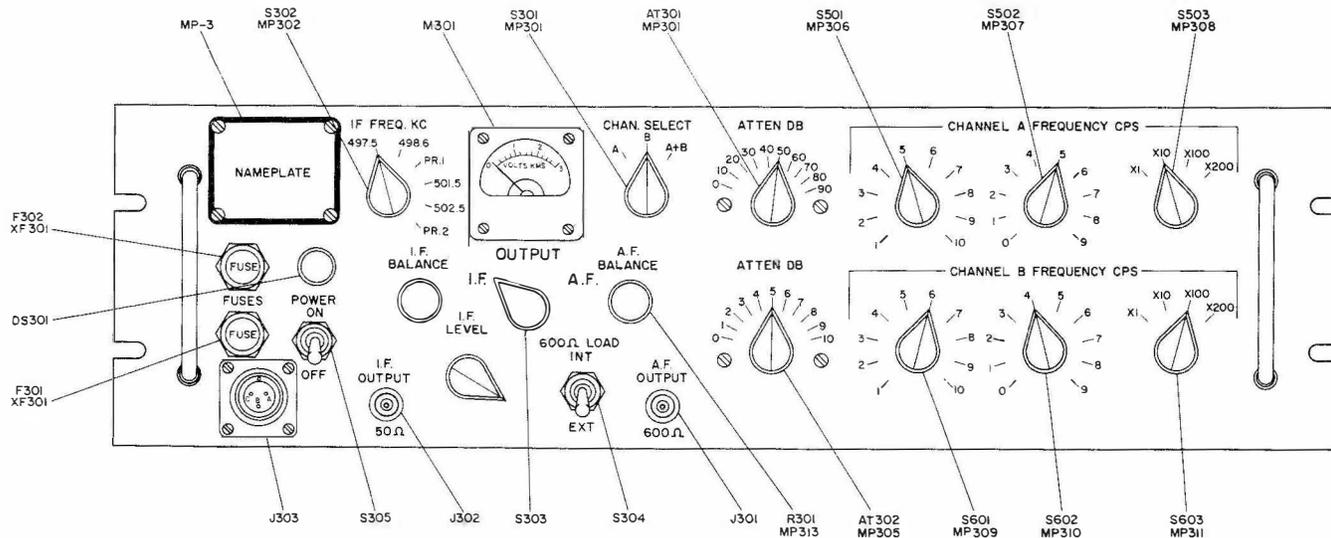
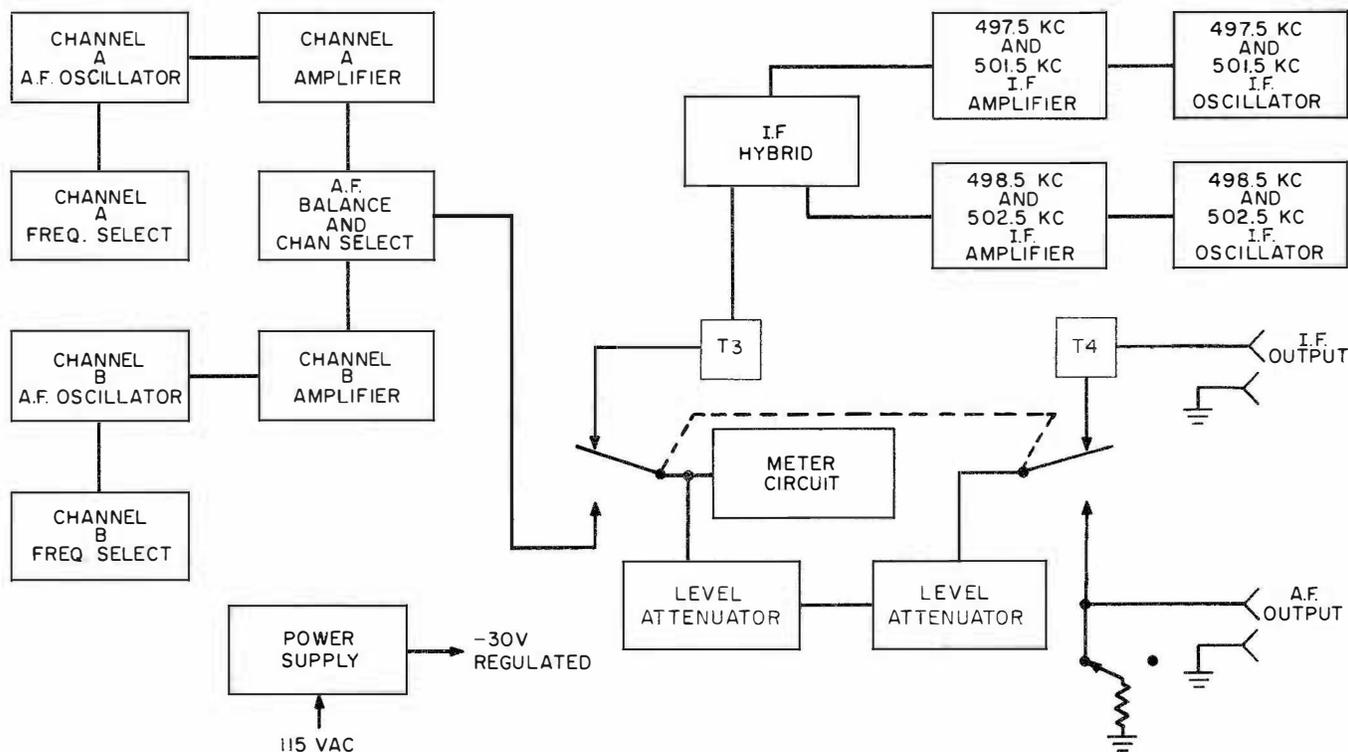

Figure 3-1. Signal Generator, SG-376A/U, Location of Operating Controls
Figure 4-1. Signal Generator, SG-376A/U, Block Diagram
(1) The controls and their functions are listed in table 3-1. The locations of the controls and indicators are illustrated in figure 3-1.
a. SYMPTOM RECOGNITION. - The symptoms of faulty operation noted below can be recognized by observing the indicators, shown in figure 3-1, and are as follows:
(1) Failure of POWER ON INDICATOR lamp (DS301) to light, when the POWER switch (S305) is in the ON position, indicates absence of electric power, a blown FUSE (F301 or F302) defect in POWER CABLE ASSEMBLY (CA-301), defective POWER switch (S305) or burned out POWER ON INDICATOR lamp (DS301).
(2) Zero or very low indication by the METER (M301) when the POWER ON INDICATOR lamp (DS301) is lighted and with the OUTPUT switch (S303) in either IF or AF position indicates a failure in either the metering circuit or the power supply circuit.
(3) Zero or very low indication by the METER (M301) with the POWER ON INDICATOR lamp (DS301) lighted and only when the OUTPUT switch (S303) is in the I.F. position, and with the I.F. FREQ.KC switch (S302) set to any position, indicates that neither of the I.F. oscillators is functioning or that the METER switch (S303) is defective.
(4) Zero or very low indication by the METER (M301) with the POWER ON INDICATOR lamp (DS301) lighted and only when the OUTPUT switch (S303) is in the A.F. position and with the CHANNEL A FREQUENCY CPS switches (S501, S502, S503) and the CHANNEL B FREQUENCY CPS switches (S601, S602, S603) in any position, indicates that neither of the A.F. oscillators is functioning or that the meter circuit of OUTPUT switch (S303) is defective.
c. PROBABLE FAULTY FUNCTIONS. - The Channel A and Channel B A.F. OSCILLATOR board assemblies (A7 and A8) and the I.F. OSCILLATOR board assembly (A6) share the same power supply simultaneously and the metering circuit alternately, as shown in block diagram figure 4-1. The following faulty conditions could occur:
(1) Absence of or very weak signals at both the A.F. OUTPUT jack (J301) and the I.F. OUTPUT jack (J302) because of failure of the power supply circuit. (Set output switch in desired position.)
(2) Absence or distortion of, or a very weak signal of the I.F. OUTPUT jack (J302) with the I.F. FREQ. KC switch (S302) set to any position, but with normal signal present at the A.F. OUTPUT jack (J301) because of failure in the I.F. OSCILLATOR board assembly (A6) or defect in either DB control (AT-301, AT-302).
(3) Absence of, or off-frequency operation of, one of the four available I.F. signals at the I.F. OUTPUT jack (J302) because of a crystal failure.
(4) Absence of, or a very weak signal, at the A.F. OUTPUT jack (J301) with the CHAN SELECT switch (S301) set at A + B, but with normal signals present at I.F. OUTPUT jack (J302), because of a failure in the CHAN SELECT switch (S301), A.F. BALANCE control (R301) or either ATTEN DB control (AT301 or AT302).
(5) Absence of, or a very weak signal at the A.F. OUTPUT jack (J301) only when the CHAN SELECT switch (S301) is set at A, because of a failure in the Channel A A.F. OSCILLATOR board assembly (A7), CHAN SELECT switch (S301) or A.F. BALANCE control (R301).
(6) Absence of, or a very weak signal at the A.F. OUTPUT jack (J301) only when the CHAN SELECT switch (S301) is set at B, because of a failure in the Channel B A.F. OSCILLATOR board assembly (A8), CHAN SELECT switch (S301) or A.F. BALANCE control (R301).
(7) Distorted signal at the A.F. OUTPUT jack (J301), when CHAN SELECT switch (S301) is set to A, because of a defect in CHANNEL A A.F. OSCILLATOR board assembly (A7).
(8) Distorted signal at the A.F. OUTPUT jack (J301), when CHAN SELECT switch (S301) is set to B, because of a defect in CHANNEL B A.F. OSCILLATOR board assembly (A7).
(9) Off-frequency signal at the A.F. OUTPUT jack (J302) when CHAN SELECT switch (S301) is set to A, because of a defect in CHANNEL A NETWORK assembly (A501).
(10) Off-frequency signal at the A.F. OUTPUT jack (J301) when CHAN SELECT switch (S301) is set to B, because of a defect in CHANNEL B NETWORK assembly (A601).
d. LOCALIZING THE FAULTY FUNCTION. - The waveforms that can be observed with an oscilloscope at the various inter-assembly points are shown in figure 4-1. These waveform observations should be taken with the vertical input of the oscilloscope connected to the noted check points and the ground terminal of the oscilloscope connected to the chassis.
a. The equipment generates two adjustable-frequency A.F. signals either or both of which are available at the A.F. OUTPUT jack (J301) and I.F. signals at four different frequencies which are available individually or in prescribed pairs at the I.F. OUTPUT jack (J302). Figure 4-1 is a block diagram showing the signal paths and output signal waveforms.